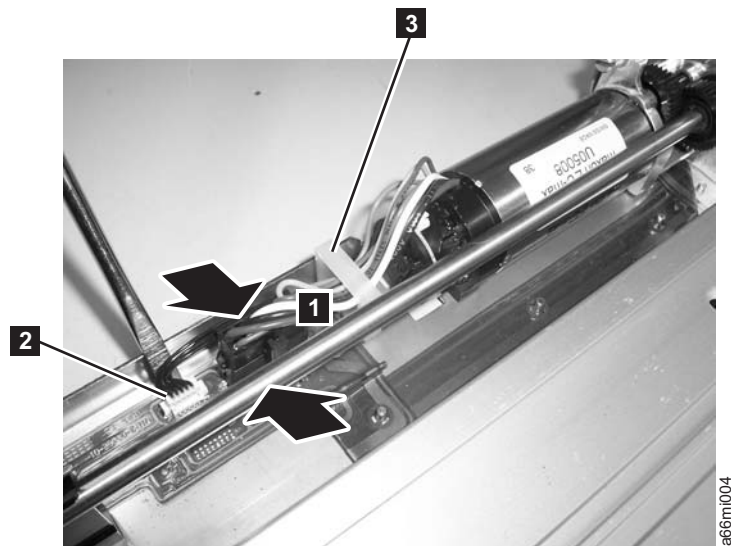

Figure 8-48. Y motor connector
4. See Figure 8-48 on page 8-53. Remove the large black connector.
- a. Pinch the latch (1 in Figure 8-48) on the cable connector.
5. Use a small flat blade screw driver to pry up on the small white connector (2 in Figure 8-48) gently working the screw driver blade along the entire outside edge of the connector.